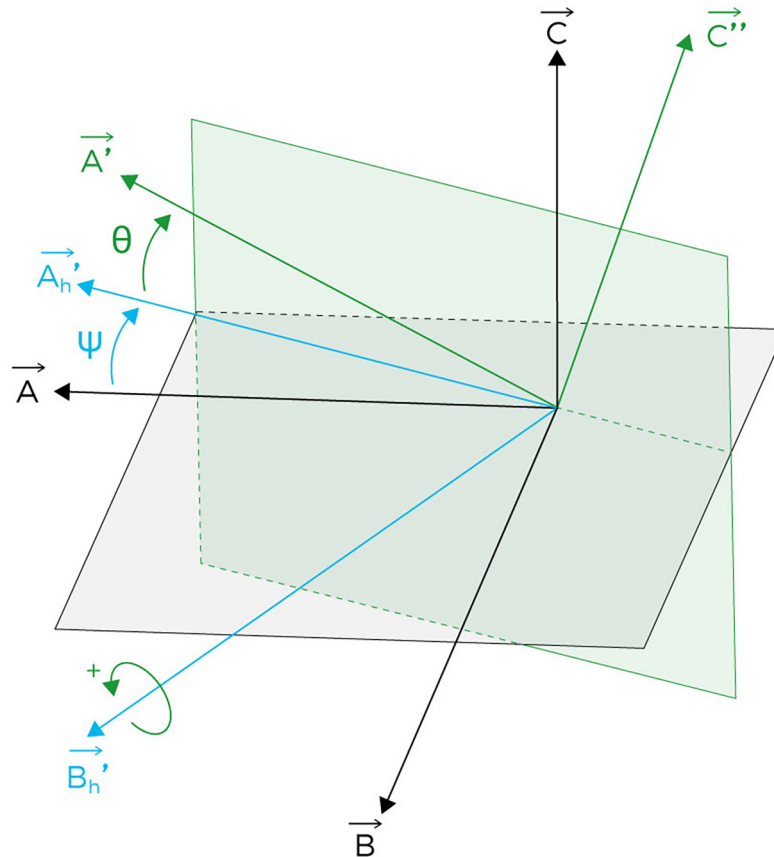

Figure 20 - Illustration of the second rotation around $\underline{B}_h'$
2. Rotation of $(\underline{A}_h', \underline{B}_h', \underline{C})$ around $\underline{B}_h'$ **angle θ** (see the Figure 20) to yield $(\underline{A}', \underline{B}_h', \underline{C}'')$.